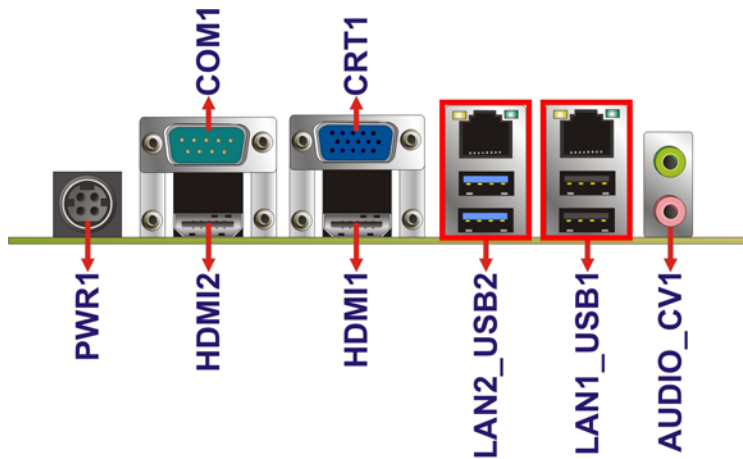

Figure 3-24: KINO-QM670 External Peripheral Interface Connector
Figure 3-24 shows the KINO-QM670 external peripheral interface connector (EPIC) panel.
CN Location: See Figure 3-24
- CN Location:** See **Figure 3-24**
- CN Location:** See Figure 3-24